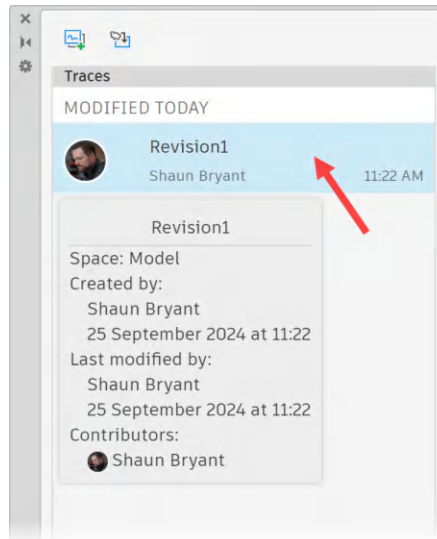

Figure 16.8: The trace information
11. If you now hover over the trace in the palette, you will see that AutoCAD gives you all the author information for the trace and other information, such as the trace creation date, as shown in *Figure 16.8*. It also displays the contributors to the trace, showing who else has collaborated on the trace. At the moment, only you should be shown as a contributor.